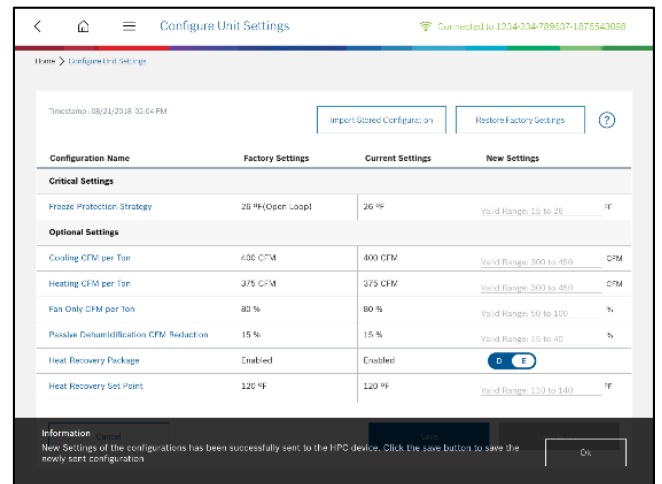

Figure 38: Send to Unit – Success
- Now tap “Send to Unit” button and confirm the prompt popup. The imported configuration is sent updating the HPC configuration. A success message will be displayed. See figure 38.